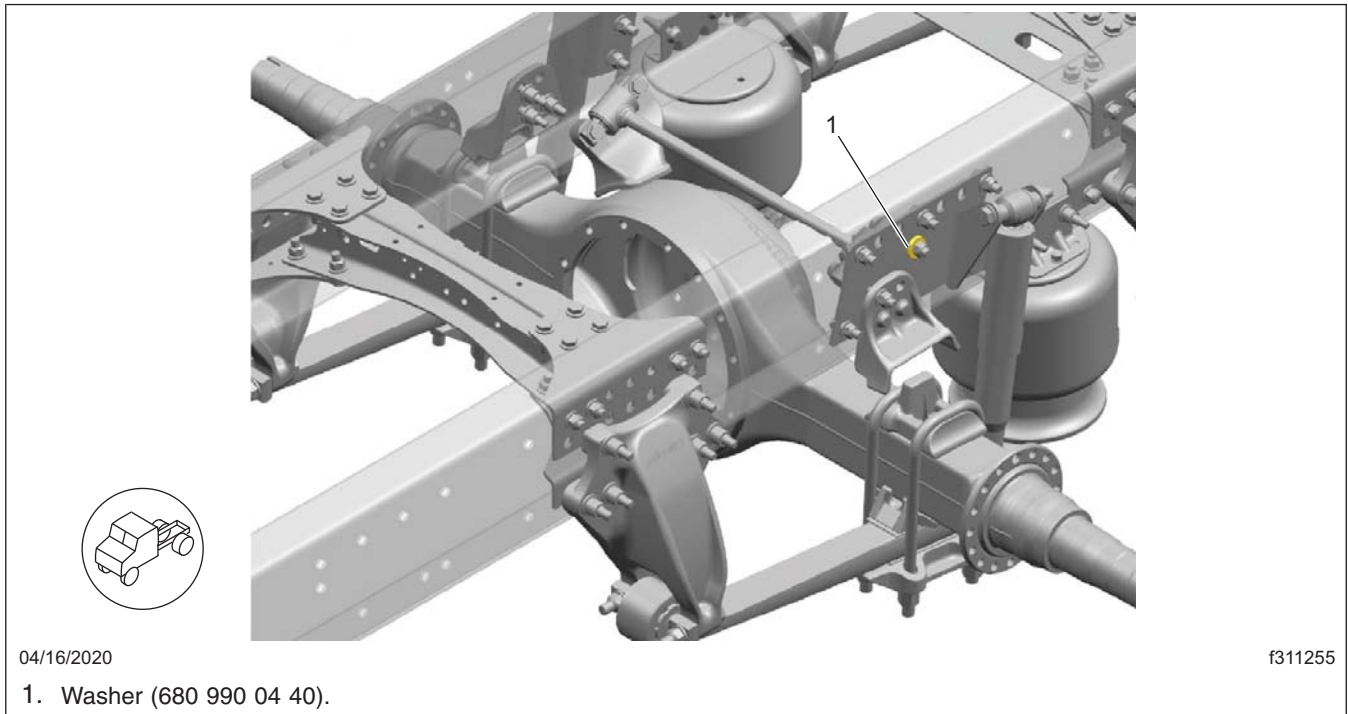

Fig. 2, View of Installed Washer
10. Attach the transverse torque rod and bracket using the two 5 in long 5/8 in bolts, nuts and washers. Insure the washer (680 990 04 40) is installed as shown in **Fig. 2**.